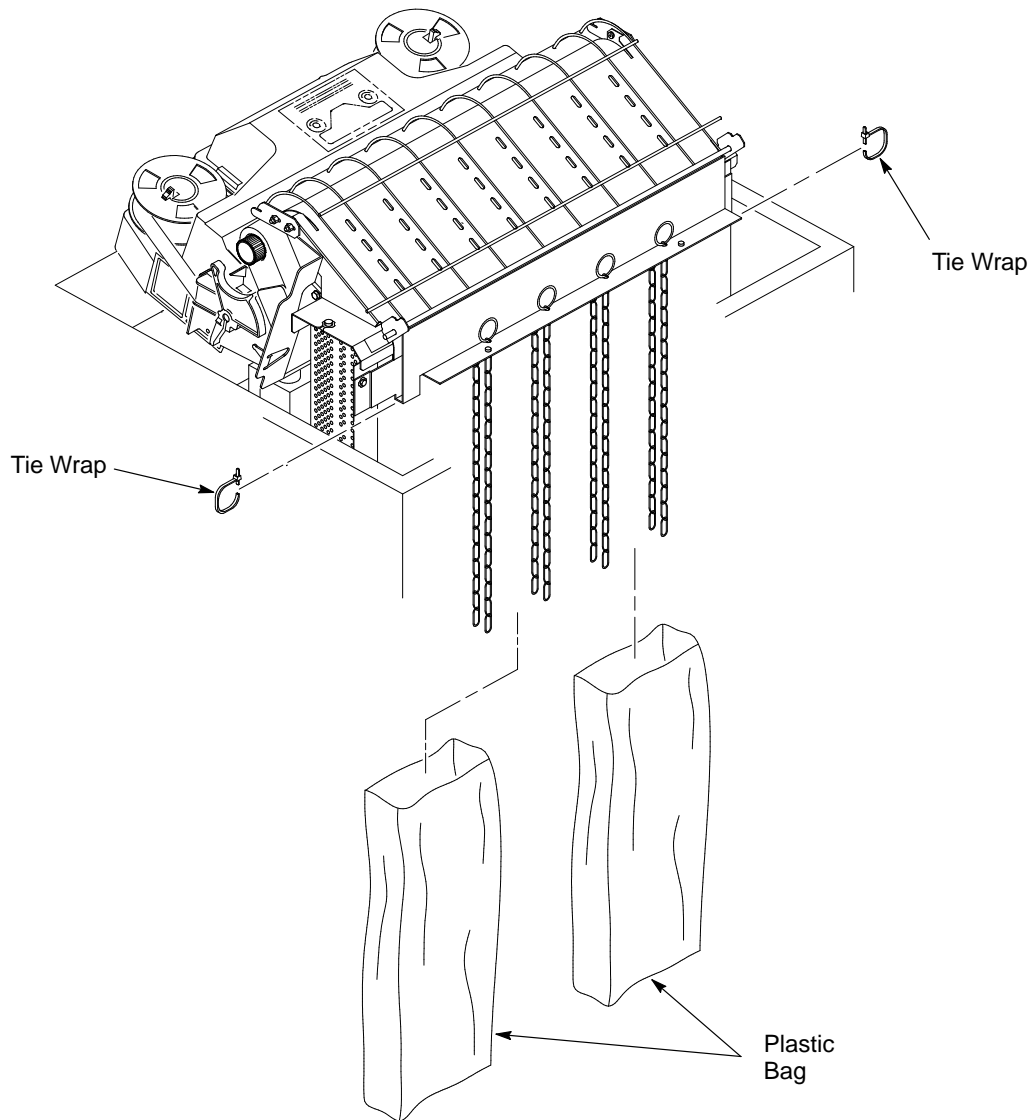

Figure 2–6. LG06: Releasing Paper Chains
2. Cut the tie wraps and release the paper chains from the bags at the rear of the printer frame. Remove the tie wraps and bags. (See Figure 2–6.)